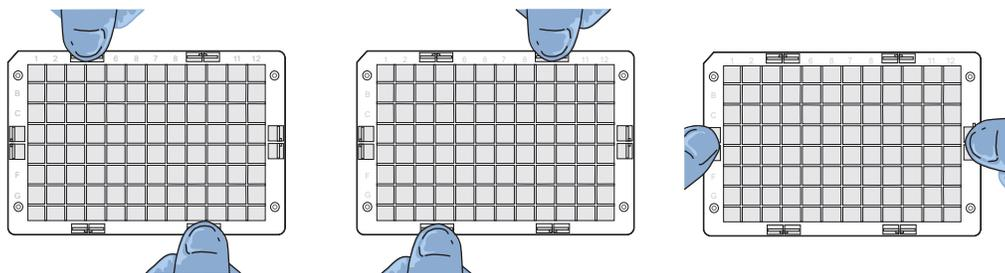

Figure 26 Clamping verification steps.
5. Verify the plate clamping step to ensure that the array plate is securely fastened to the hybridization tray. Remove the plate stack from the drawer and place on a bench top. Using your thumbs, press the array plate downward following the positions that are specified in Figure 26. *No clicking sound indicates proper clamping.*